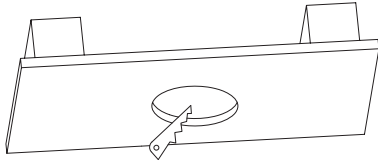

FIG. 3
2. Pull the ceiling wire through the hole. (See **FIG. 3**)